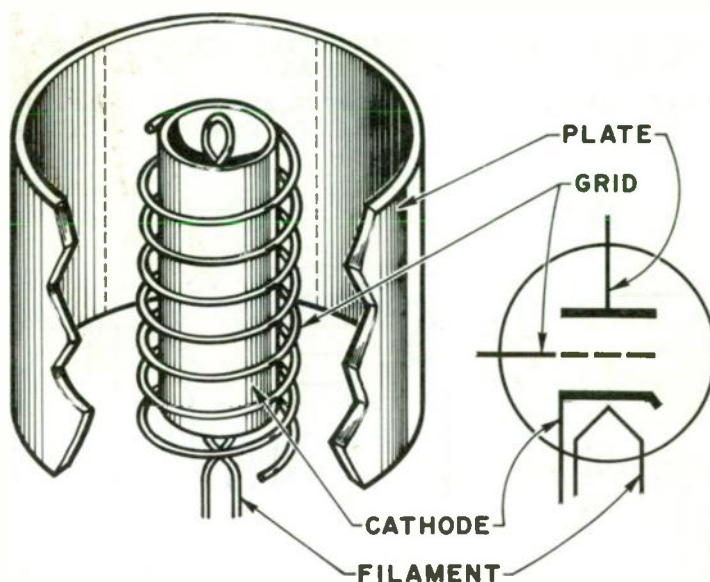

Figure 20 — Physical structure and schematic symbol of a triode vacuum tube.
**Grid Bias** When a third electrode, a control grid or *grid*, is placed between the cathode and the plate, the vacuum tube is known as a triode (Fig. 20). The grid itself does not present an obstacle to the electron flow, because it is an open helix or mesh of fine wires. But a varying potential on this electrode has an important controlling effect on the plate-current output of the tube.